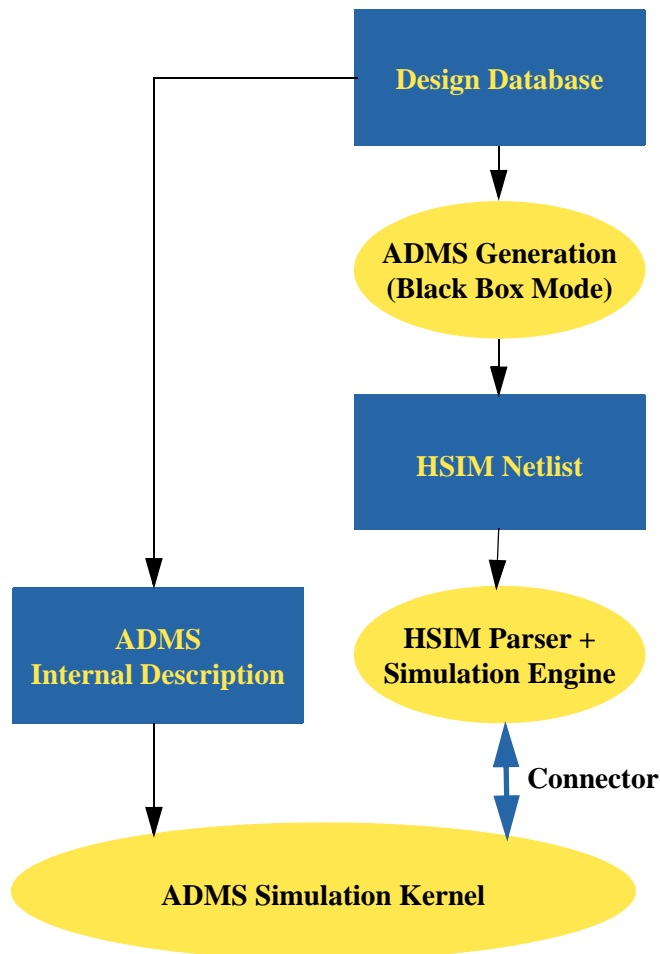

Figure 36 HSIM-ADMS Architecture
HSIM-ADMS employs black box (BB) type communications for design elaboration using the architecture shown in Figure 36 on page 359.